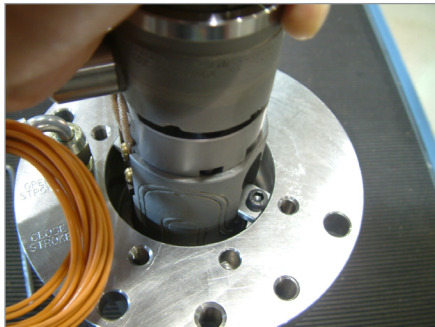

Figure 5-68 Accu-Line valve pin holder and valve pin
22. The valve pin holder should be locked with and move together with the valve pin. See Figure 5-68.